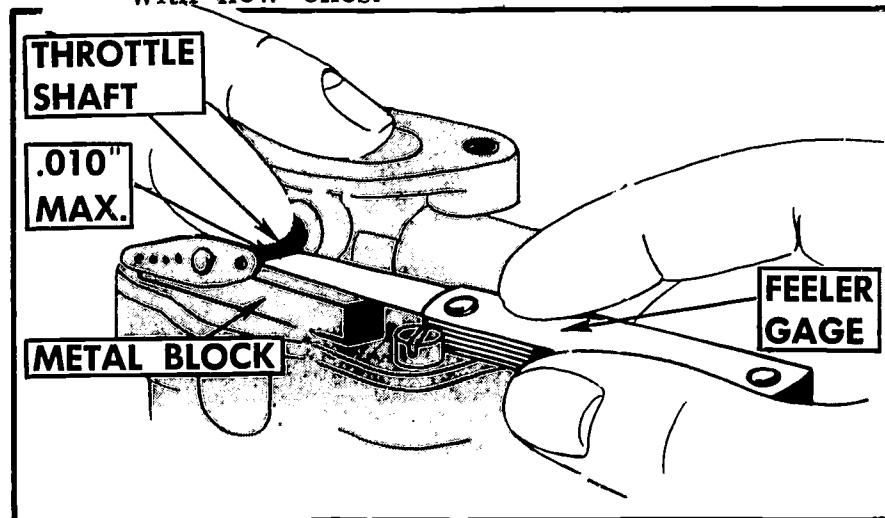

FIGURE 141. Checking the throttle shaft and/or bushing for wear.
1. Check throttle shaft for wear (Figure 141).
2. *Check throttle-valve shaft for wear (Figure 141).*